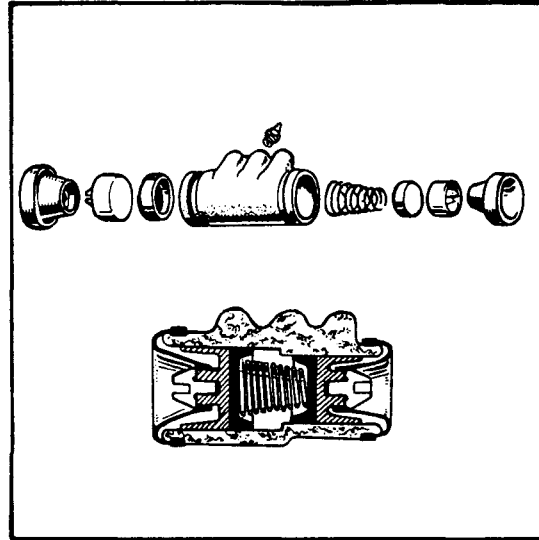

Figure 9. Wheel Cylinder
3. Lubricate all parts and the cylinder wall with clean brake fluid and assemble as shown in Fig. 9. Mount wheel cylinders securely to the backing plate and attach brake hoses.